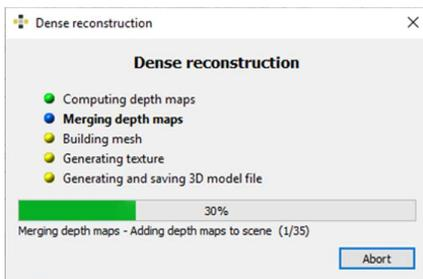

Figure 22: Progress window: Dense Reconstruction
6. Start the reconstruction process by a click on the “*Start Dense Reconstruction*”  button. The appearing progress window shows the current status of reconstruction (Figure 22).